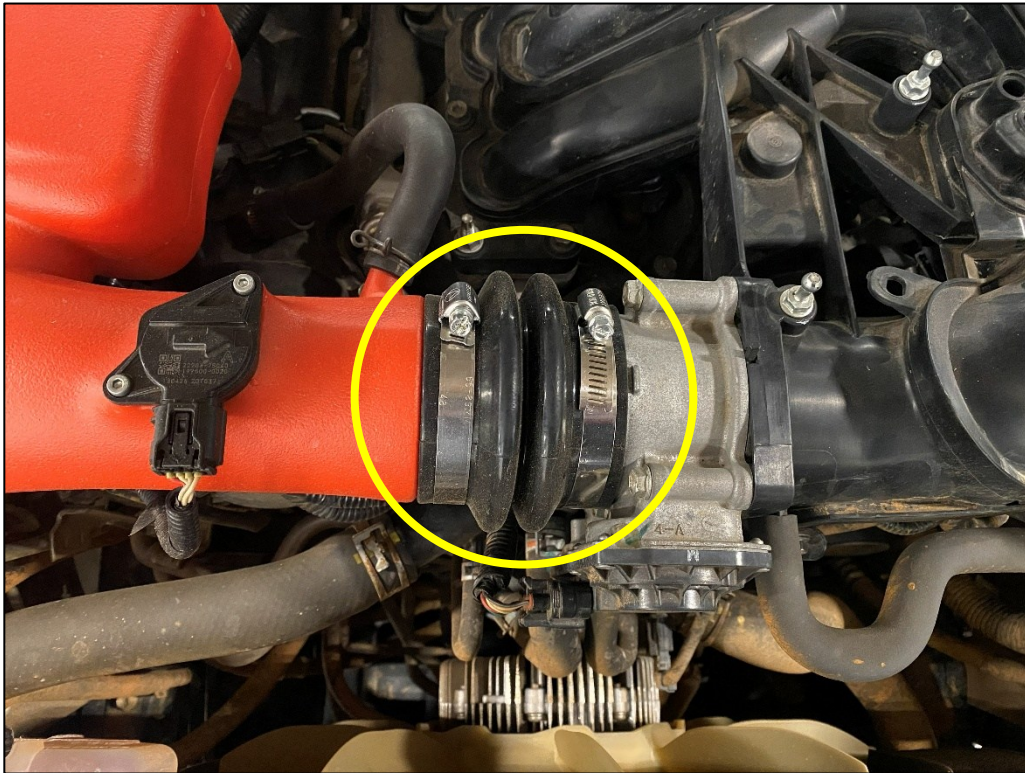

Figure 1
7. Disconnect the Air Intake from the Throttle Body. *Figure 1.*